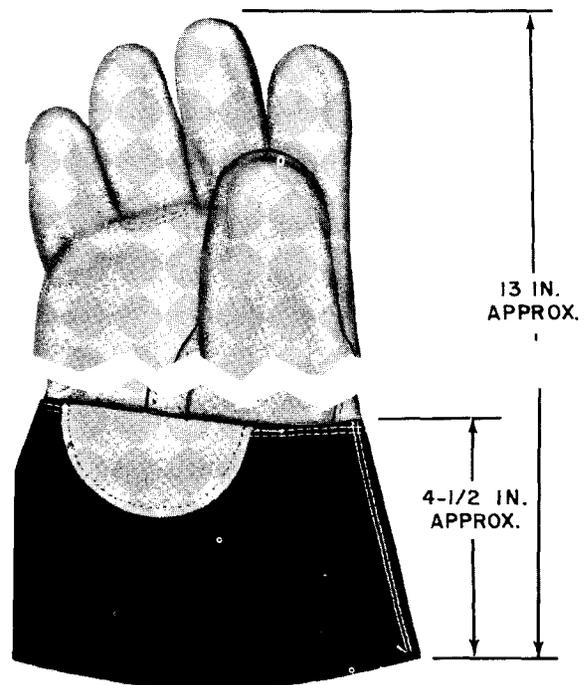

Fig. 2—Leather Protector Glove
**3.02** B and C Leather Protector Gloves are of the gauntlet type. The over-all length is about 13 inches and the cuff is about 4-1/2 inches wide. Fig. 2, a C Leather Protector Glove, illustrates these dimensions.